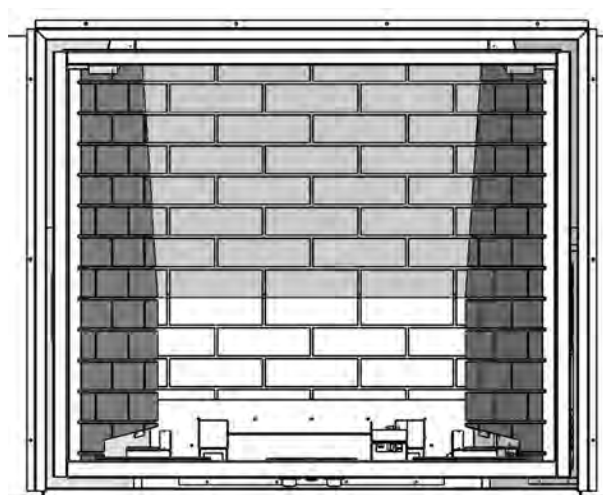

Figure 52: Right Firebox Liner Panel in Place.
- 4) Install the Right Firebox Liner Panel in the same manner used for the Left Panel (see Figure 52). The vertical edges of the left and right panels should line up with the front edges of the firebox sides.